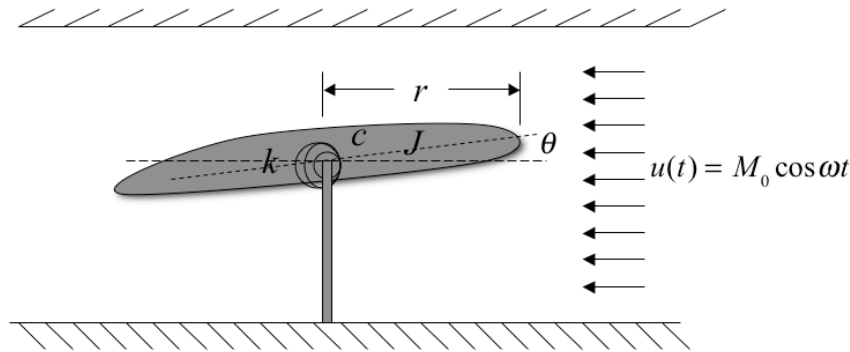

Figure P2.31 Model of an airfoil in at wind tunnel including the effects of damping.
- 2.31** Consider the system of Problem 2.15, repeated here as Figure P2.31 with the effects of damping indicated. The physical constants are $J = 25 \text{ kg m}^2$, $k = 2000 \text{ N/m}$, and the applied moment is 5 Nm at 1.432 Hz acting through the distance $r = 0.5 \text{ m}$. Compute the magnitude of the steady state response if the measured damping ratio of the spring system is $\zeta = 0.01$. Compare this to the response for the case where the damping is not modeled ($\zeta = 0$).